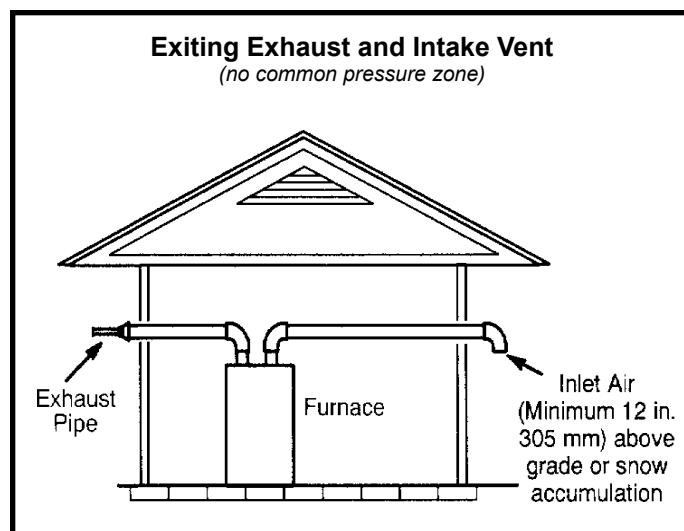
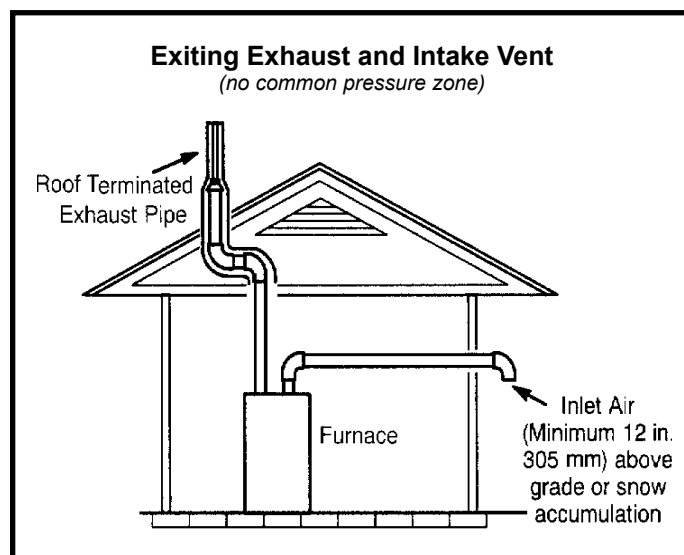

Figure 34
Figure 35
1. Intake and exhaust terminations are not required to be in the same pressure zone. You may exit the intake on one side of the structure and the exhaust on another side (Figure 34). You may exit the exhaust out the roof and the intake out the side of the structure (Figure 35).